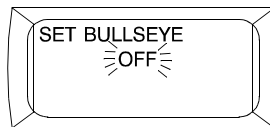

Figure 26. Bullseye Off Display
2. Press the right arrow key (figure 1, item 5) to start selection flashing (figure 26).